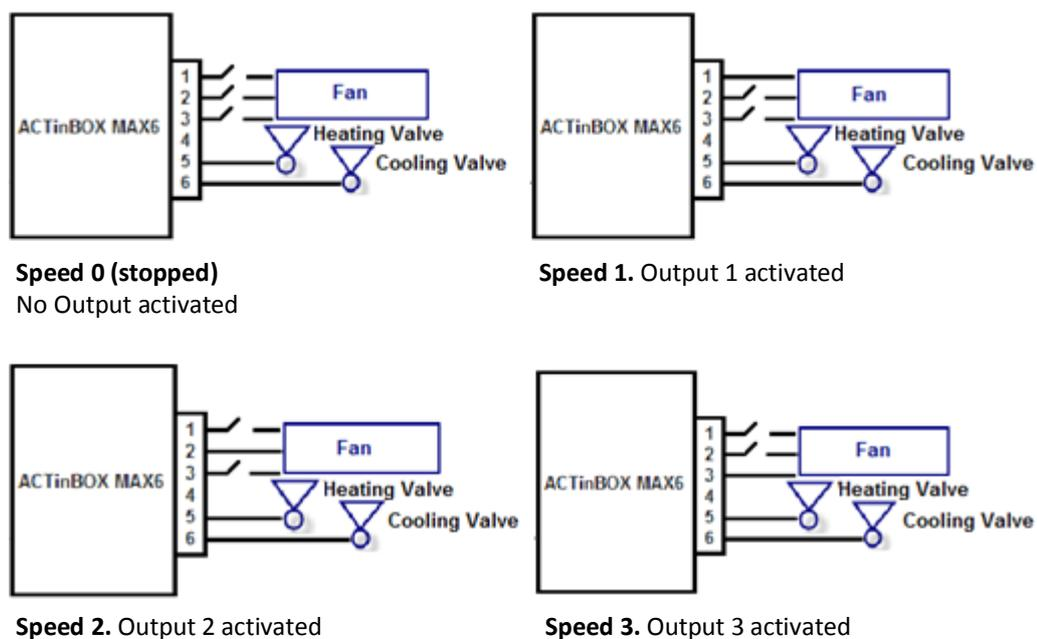

Figure 3.5. Ventilation speed control by switching
- **Switching** (just 1 relay on): just one of the 3 outputs of the actuator will be activated for each ventilation level (see figure 3.5).